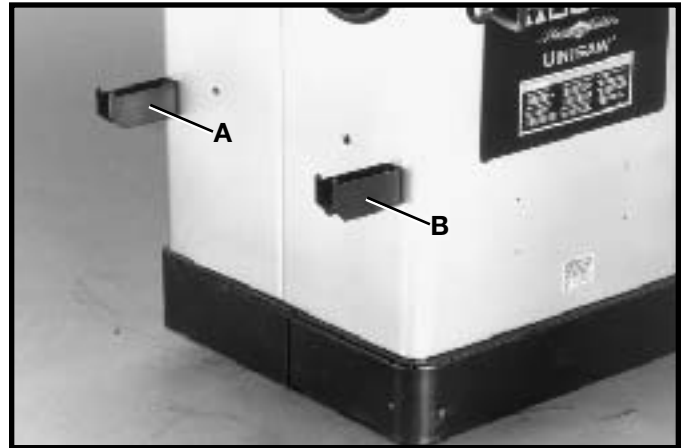

Fig. 47
1. Assemble the rip fence holder brackets (A) and (B) Fig. 47, to the four holes located in the left hand side of the saw cabinet using four 1/2" long self-tapping screws supplied.